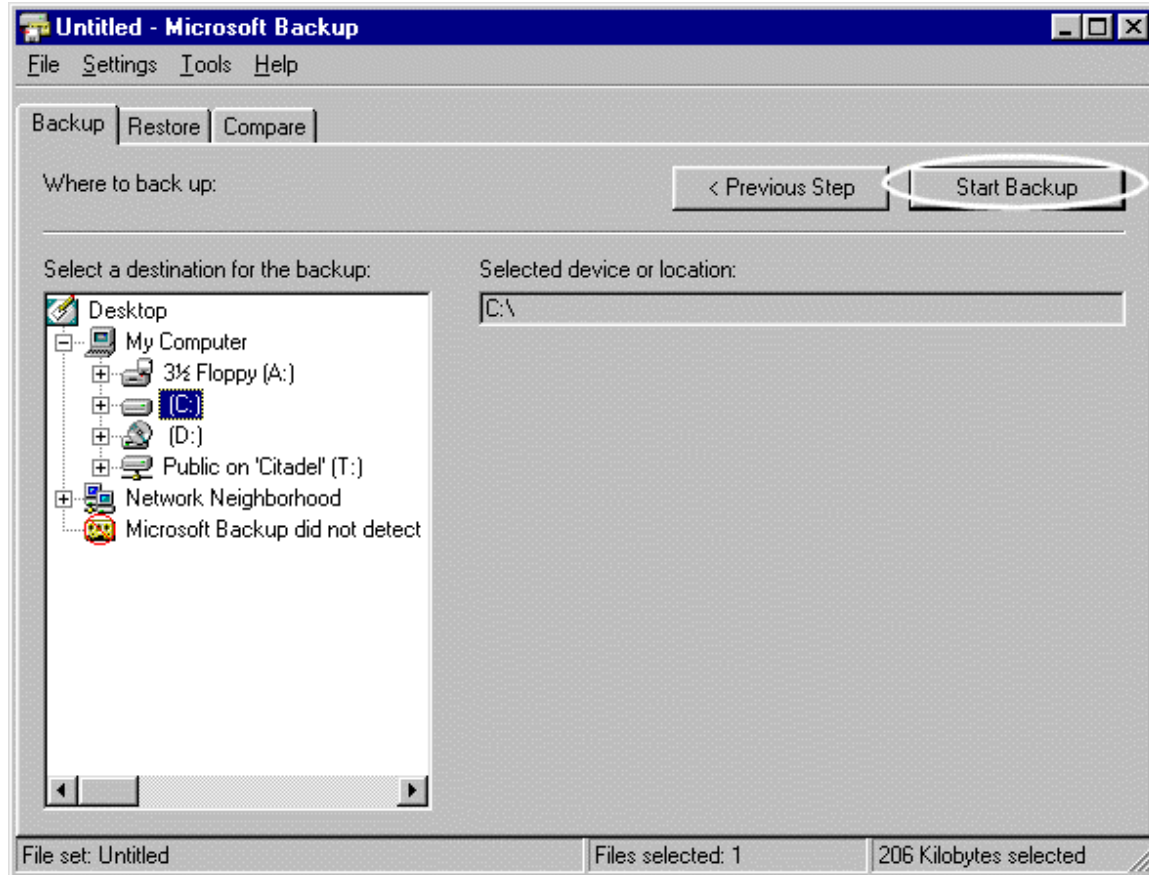

Figure 22 Backup: Start Backup
- When the destination for the backup has been selected, click on **Start Backup**. (see Figure 22)